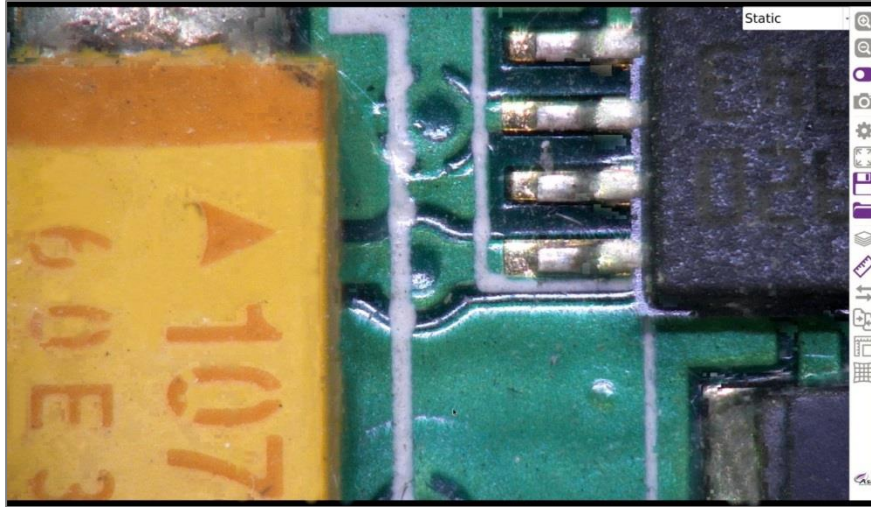

Fig. 32
5. The processed image will now be displayed in static form with all components (heights) in-focus (Fig.32).